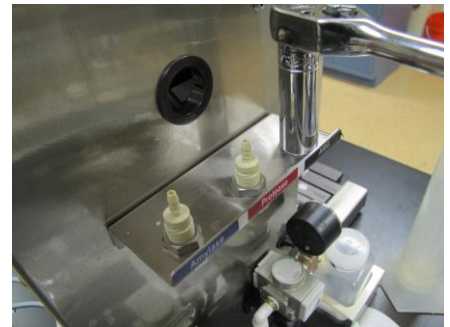

Figure 21
20. Reinstall the Enzyme Shut-off Valves, as depicted in Figure 21, making sure to use the black gaskets on the underside of the bracket between the valve and bracket. (The black gasket is pictured in Figure 20, above.)